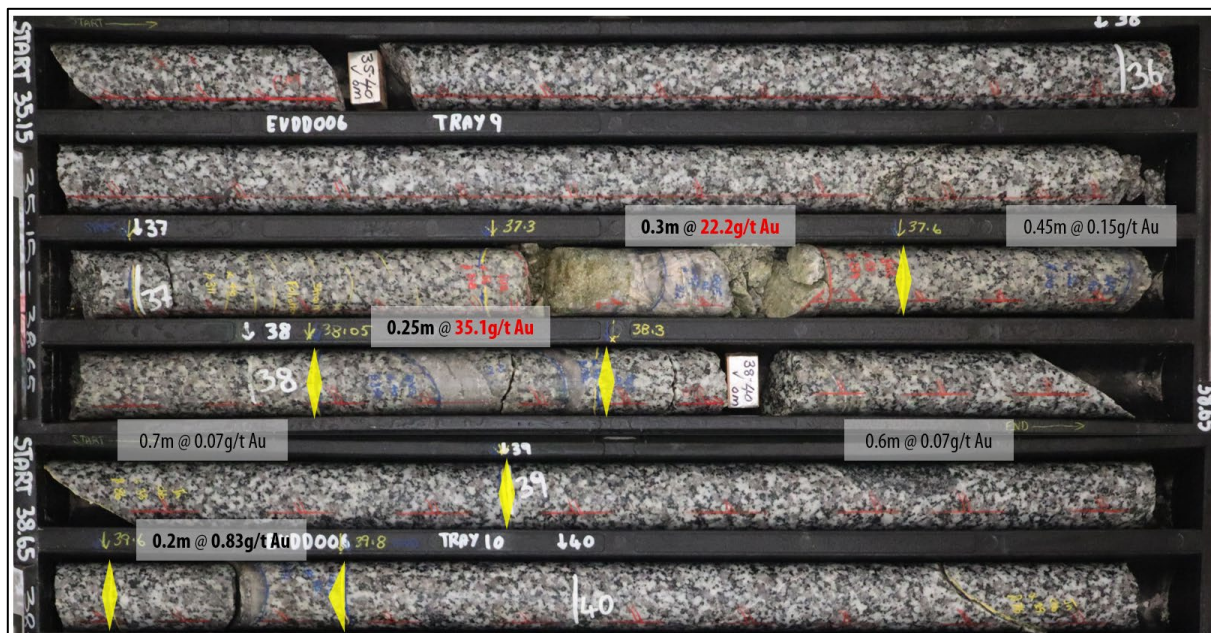

Figure 5 – EVDD006 core interval showing the 2.5m @ 6.3g/t Au composite interval, comprising multiple quartz-sulphide veins within the mineralised zone.
- **EVDD006:** 2.5m @ 6.3g/t Au from 37.3m, including **0.3m @ 22.2g/t Au** and **0.25m @ 35.1g/t Au** (Figure 5).